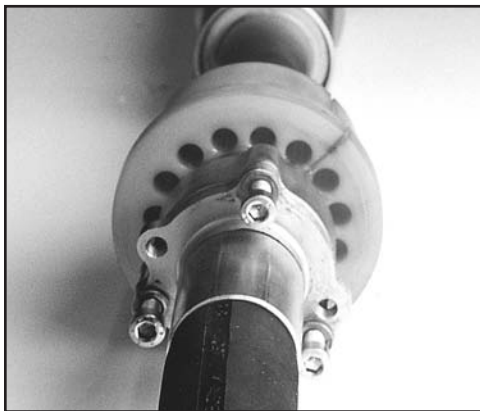

FIG. 53: REMOVE 3 SOCKET HEAD CAP SCREWS
2. Unscrew the 3 socket head cap screws of the hose connection using an allen wrench (see Fig. 53).